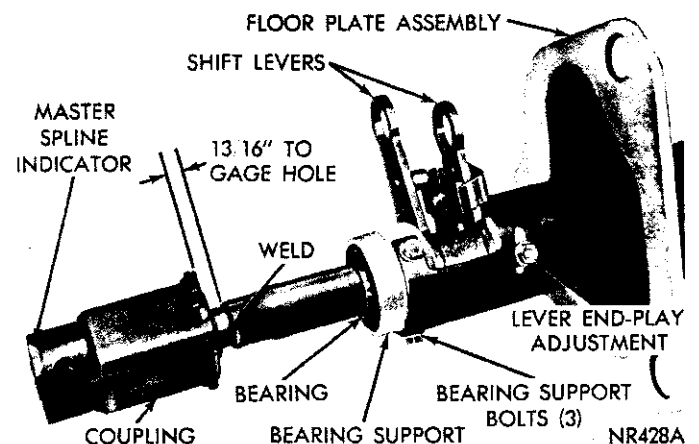

Fig. 32—Shaft Coupling Adjustment
(5) **Center steering shaft coupling at midpoint of its travel.** This is accomplished by moving column and bracket assembly fore and aft in the instrument panel support so dimension between top of coupling and center of gauge hole is 13/16 inch (Fig. 32). Tighten the two upper bracket nuts to 110 inch-pounds. Attach electrical ground wire to one of the rear mounting studs.
(6) Position floor plate over floor pan opening, centering it around the column, then install and tighten retaining bolts. Slide "O" ring down the jacket and into recess in floor plate, position retaining plate over "O" ring and secure with the two bolts. **Do not pry to align plates and attaching bolts or column misalignment will occur.**
(7) If so equipped, place shim pack between column bracket forward leg and instrument panel support. **Maximum shim pack thickness error must not exceed .060 inch before tightening the bolt.** Add shims, if necessary, then tighten bolt to 110 inch-pounds.
(8) Attach finish plate to bottom of instrument panel.
(9) Install turn signal lever.
(10) Place steering wheel (or corrugated cylinder on Challenger) on steering shaft with master splines aligned. Install retaining nut and washer, tighten nut to 27 foot-pounds. **Do not drive wheel on shaft, draw wheel down with retaining nut.**
(11) Install horn switch parts previously removed from steering wheel. Connect horn switch wire.
(12) Connect wiring connectors at steering column jacket. Connect battery ground cable, test operation of lights and horns.
(13) Connect and adjust gearshift linkage, refer to "Transmission Group."